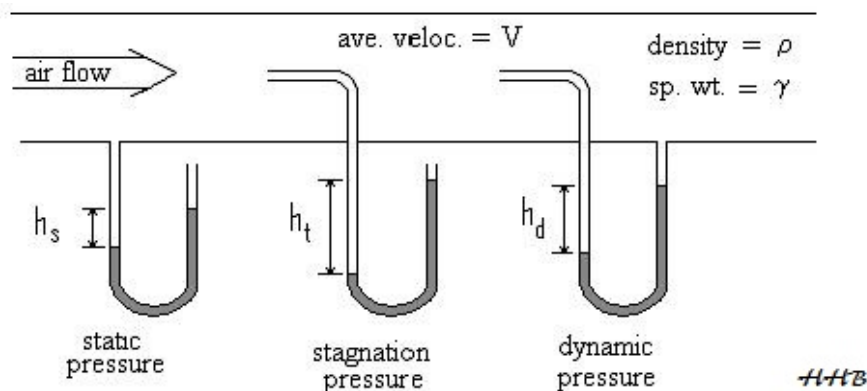
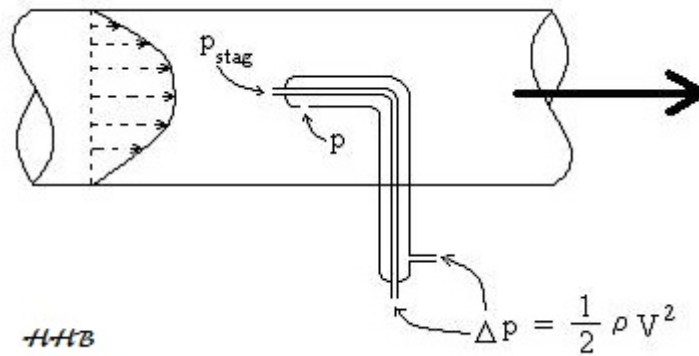

Figure 5. Various Pressure Measurements
Figure 6. Pitot Tube
Pitot tubes (also called pitot-static tubes) are an inexpensive, convenient way to measure velocity at a point in a fluid. They are used in airflow measurements in ventilation and HVAC applications. Definitions for three types of pressure and how to measure those three different kinds of pressure are given below, because understanding them helps to understand the pitot tube equation. Static pressure, dynamic pressure and total pressure are defined below and illustrated in Figure 5.
**Static pressure** is the fluid pressure relative to surrounding atmospheric pressure, measured through a flat opening, which is in parallel with the fluid flow, as shown with the first U-tube manometer in Figure 5.
**Stagnation pressure** is the fluid pressure relative to the surrounding atmospheric pressure, measured through a flat opening, which is perpendicular to and facing into the direction of fluid flow, as shown with the second U-tube manometer in Figure 5. This is also sometimes called the total pressure.
**Dynamic pressure** is the fluid pressure relative to the static pressure, measured through a flat opening, which is perpendicular to and facing into the direction of fluid flow, as shown with the third U-tube manometer in Figure 5. This is also sometimes called the velocity pressure.
The pressure difference,  $P_{\text{stag}} - P$ , can be measured directly with a pitot tube such as the third U-tube in Figure 5, or more simply with a pitot tube like the one shown in Figure 6, which has two concentric tubes. The inner tube has a stagnation pressure opening and the outer tube has a static pressure opening parallel to the fluid flow direction. The pressure difference is equal to the dynamic pressure ( $\frac{1}{2} \rho V^2$ ) and can be used to calculate the fluid velocity for known fluid density,  $\rho$ . A consistent set of units is: pressure in lb/ft2, density in slugs/ft3, and velocity in ft/sec.